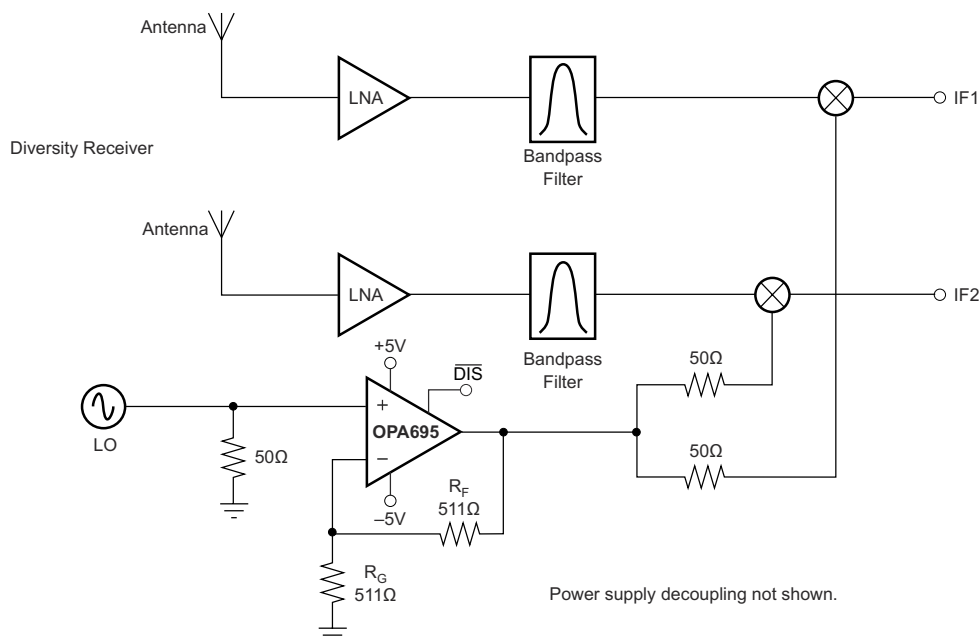

图 7-5. Dual Output LO Buffer
The OPA695 can also be used to buffer the local oscillator (LO) from the mixer. Operating at a voltage gain of +2 V/V, the OPA695 provides excellent load isolation for the LO, with a net gain of 0 dB to the mixer. Applications through a 1.4-GHz LO can be considered, but best operation is for an LO < 1.0 GHz at a gain of +2 V/V. Gain can also be provided by the OPA695 to drive higher power levels into the mixer. 图 7-5 shows one option for the OPA695 as an LO buffer. The OPA695 can drive multiple output loads; therefore, two identical LO signals can be delivered to the mixers in a diversity receiver by tapping the output off through two series 50- Ω output resistors. This circuit is set up for a voltage gain of +2 V/V to the output pin for a gain of +1 V/V (0 dB) to the mixers, but can be easily adjusted to deliver higher gains.